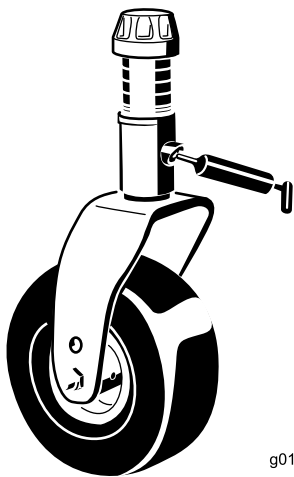

Figure 47
- Castor fork shaft bushing (1) (Figure 47)
- Idler arm pivot bushings (1) (located on the idler arm)